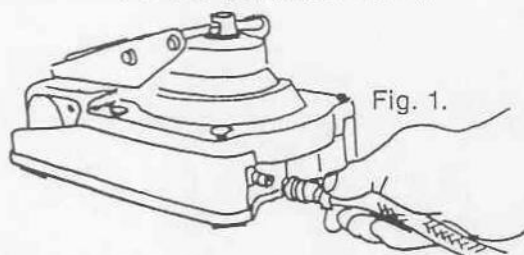

Fig. 1.
15. Appendix to section 2 above, Fig. 1 thru	10 & 11
The pump is delivered with a quick coupler valve fitted to the frame of the pump (see fig. 1).